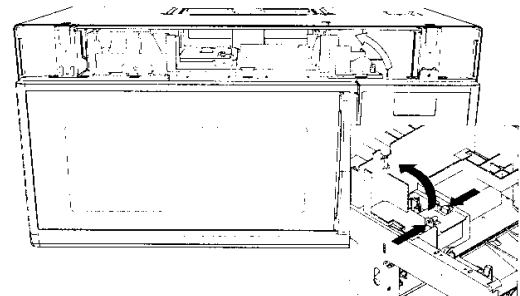

FIGURE 4
3. Depress snap lock on lens cover and rotate light housing upward. (See Figure 4)